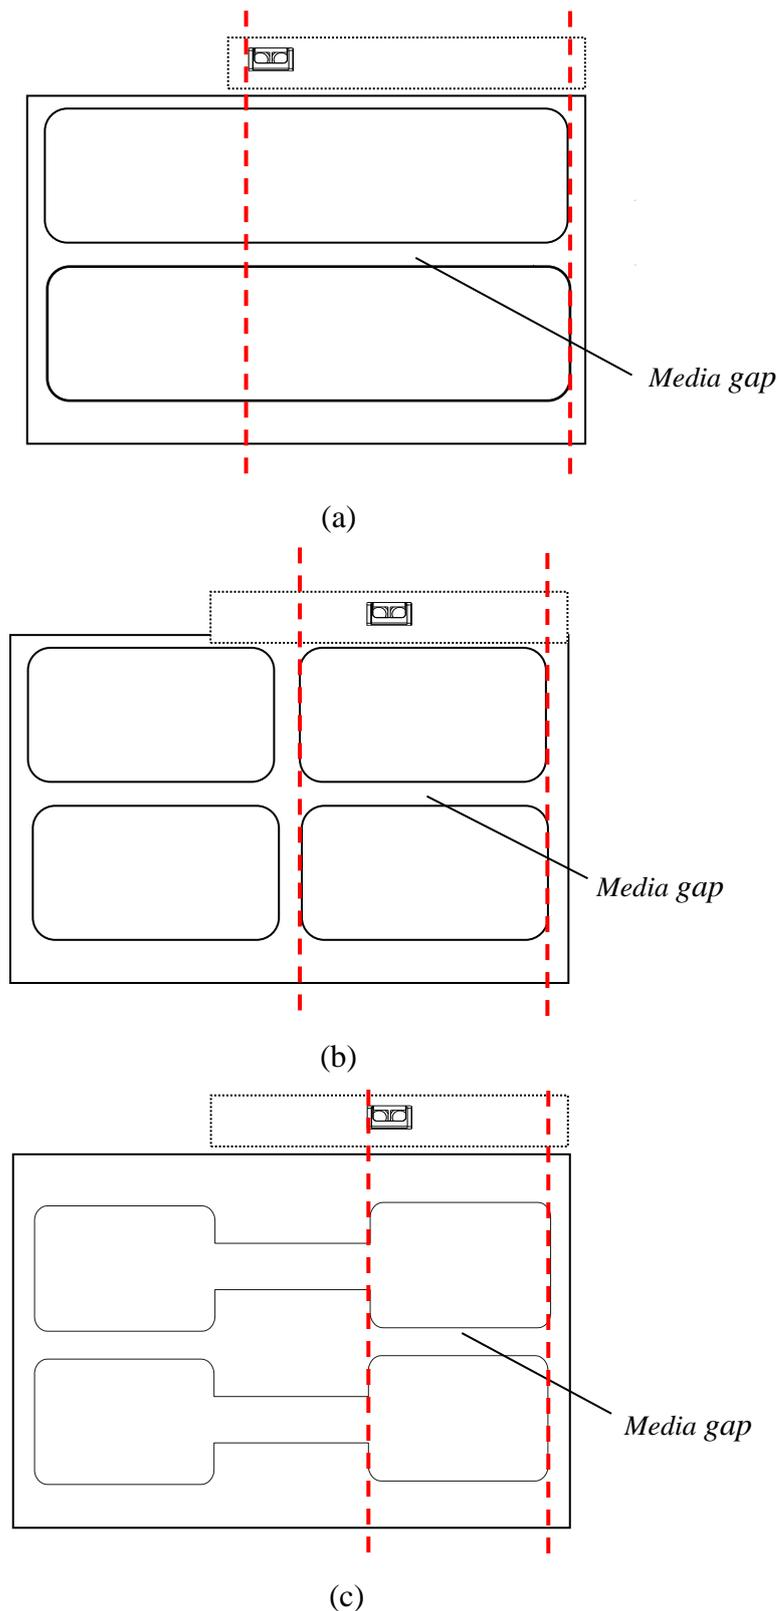

Figure 2-15 Media Sensor Position
- *Technically, the Transmissive Sensor is designed to detect a gap, hole or notch between labels, the Reflective Sensor is for detecting black marks. However, in many cases, the Reflective Sensor also can be used to detect gap, hole or notch. When choose Reflective Sensor to detect gap between labels, please refer to Figure 2-15(a) (b) (c) to adjust the position of the sensor for different media types as shown, the sensor shall be placed between the dotted lines.*